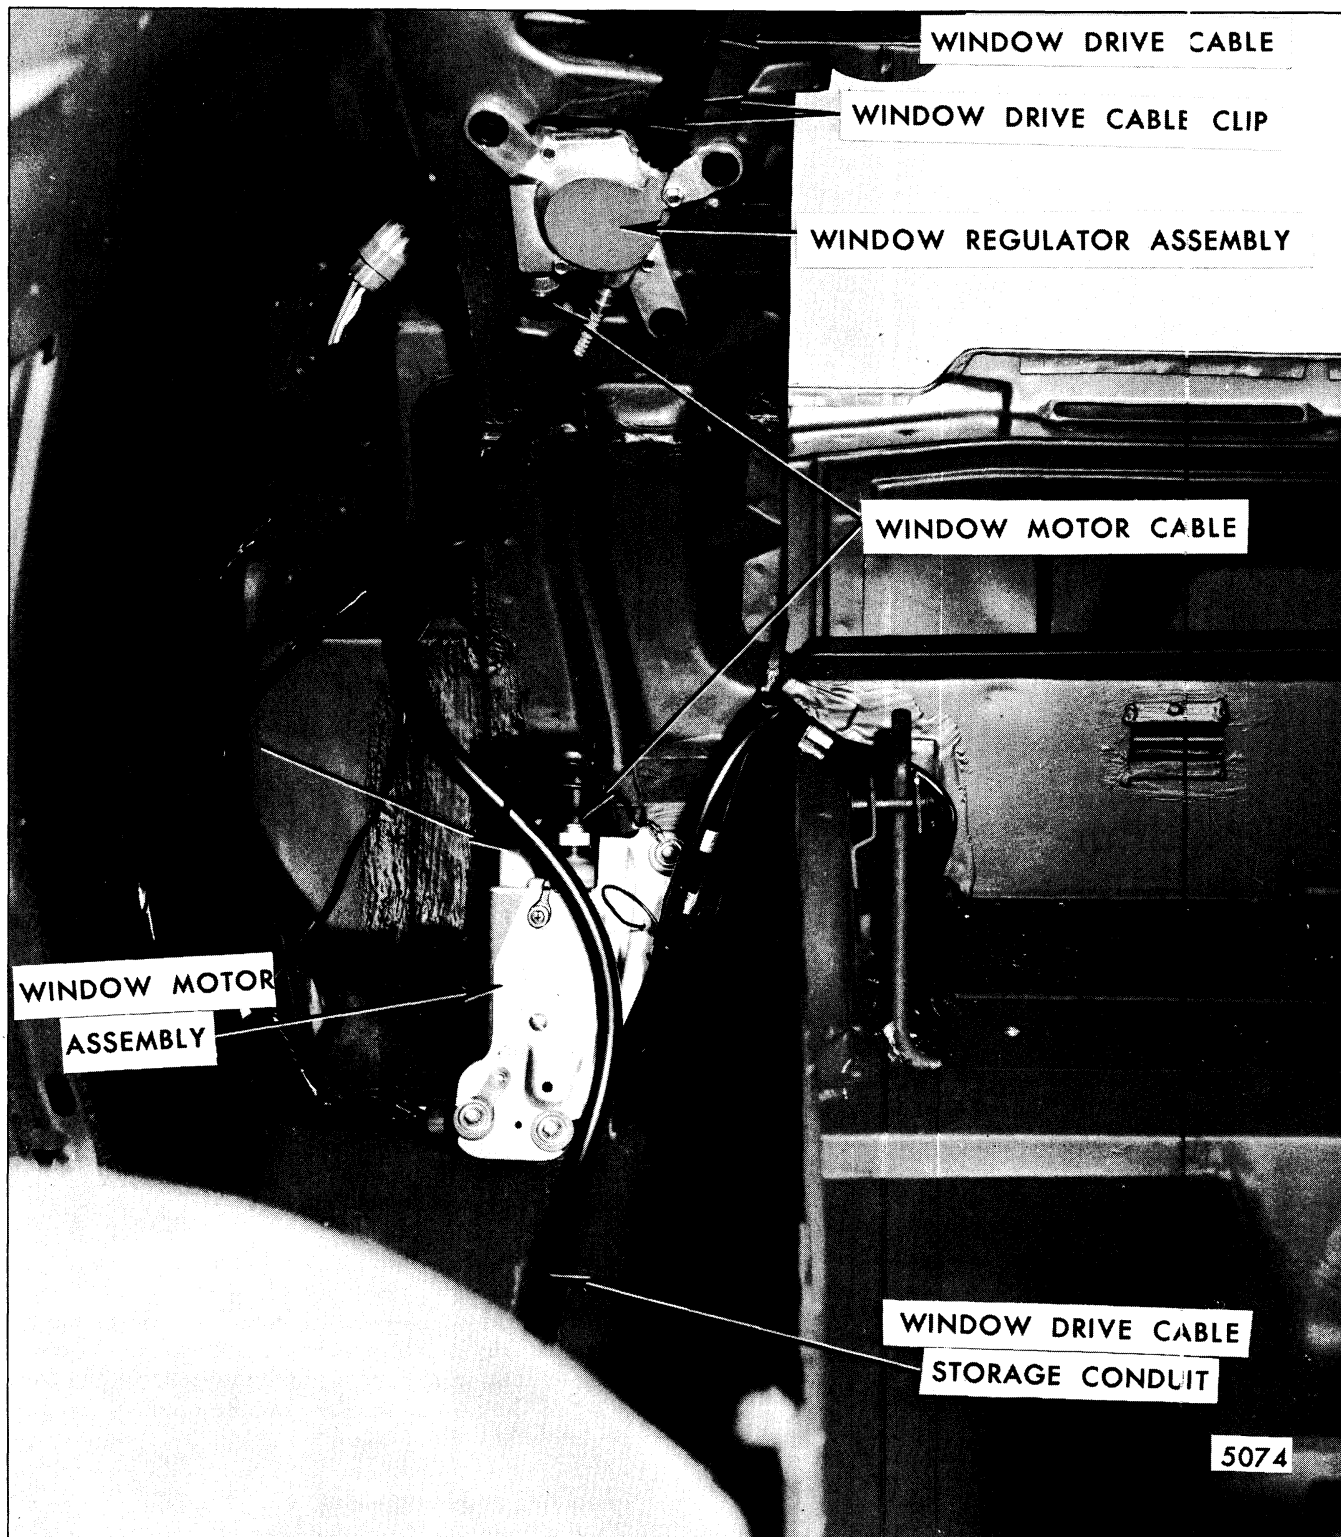

Fig. 7-94-Tail Gate Window Motor and Regulator Installation
2. Disengage window motor cable at window regulator assembly (Fig. 7-94).
surface of the right hand back body pillar behind the spare tire cover (Fig. 7-94). Rubber cushions insulate the plate from body metal, thereby requiring a separate ground strap to complete the motor circuit. Refer to the Electrical Section of this manual for details concerning the window motor and circuit.
2. Disconnect motor electrical lead and disengage cable at upper end of motor (Fig. 7-94).
Torque is delivered from the motor to the window regulator by a cable approximately 13 inches long. The cable is routed behind the basic body inner panel; however, access to each end of the cable for disconnect purposes is provided at the motor and regulator mounting locations (Fig. 7-94).